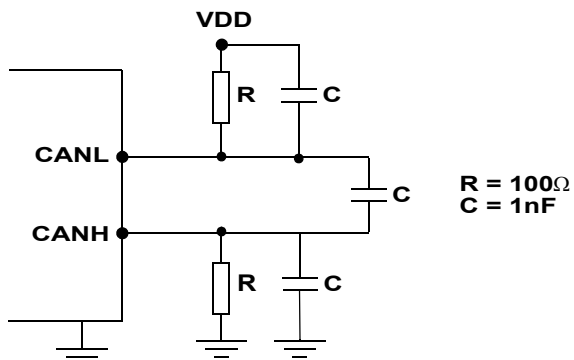

Figure 5. Test Circuit for AC Characteristics
27. AC Characteristics measured according to schematic Figure 5
28. AC characteristic according to ISO11898-3, tested per figure 5 and 6. Guaranteed by design, room temperature only.